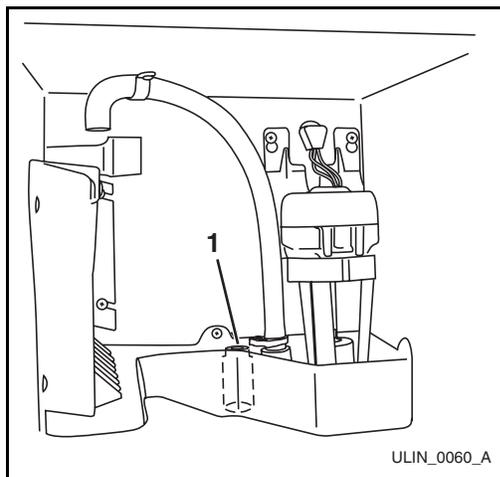

Figure 11
4. Remove the overflow tube (**Figure 11, 1**) by lifting it up while using a slight back and forth motion to loosen it from the drain hole. The water in the reservoir will flow down the drain.